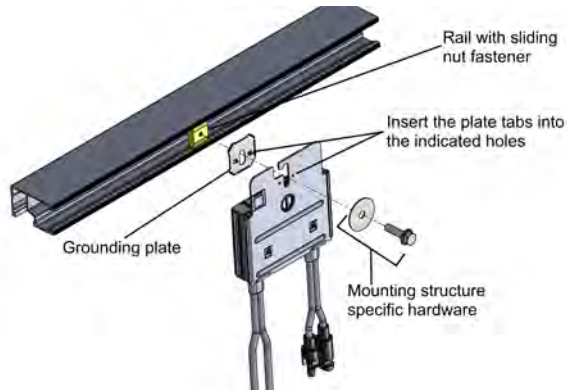

Figure 6: Power optimizer installation and grounding using a grounding plate
- For mounting on rails with sliding nut fasteners:** If the star washer cannot be used, use the SolarEdge grounding plate (purchased separately) between the railing and the flat side of the mounting bracket. Use mounting specific hardware as needed. Apply a torque of 9.5 N*m / 7 lb*ft. See *Figure 6*.